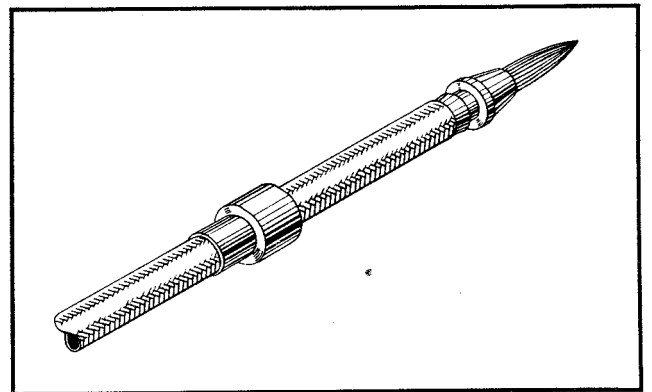

Figure 62
(5) Slide splicer over tapered braid and force under outer vinyl jacket. See Figure 62.